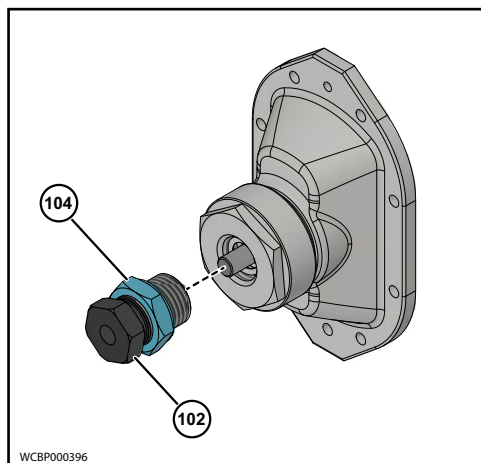

Figure 93 - Installed Adjusting Screw
5. Install the Locknut (104) onto the Adjusting Screw (102), the entire length of the threads but do not tighten as shown in Figure 93.